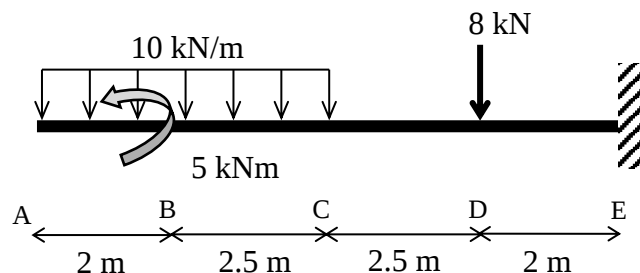

Figure B1(b) / Rajah B1(b)
- CLO2 (b) A cantilever beam is subjected to a load as shown in Figure B1(b). With the aid of free body diagram, calculate the reaction forces in each support.